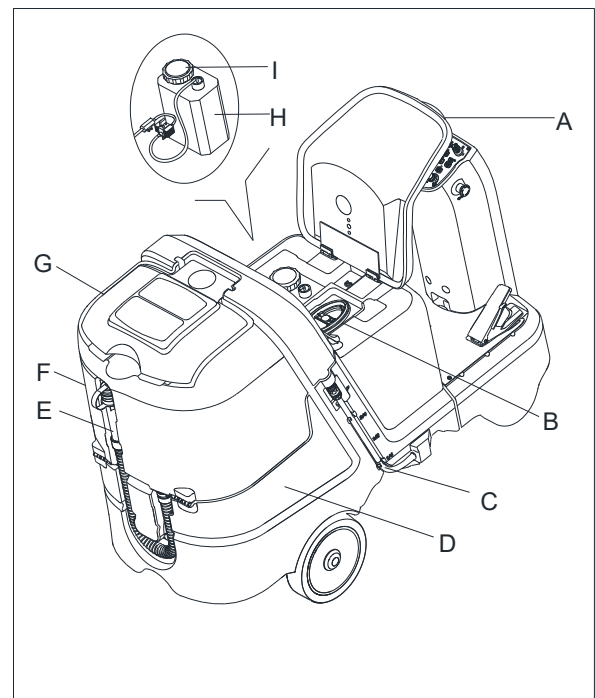

Figure 10
1. Turn over the seat (A, Figure 10).
2. (For machines without Chemical Mixing System) Use the front filler neck (B Figure 10) and the rear filler neck (C Figure 10) to fill the tank (D Figure 10) with a solution suitable for the work to be performed. Refill to the reference mark “F” of the level check hose (C Figure 10). Always follow the dilution instructions on the label of the chemical product used to prepare the solution. The solution temperature must not exceed + 104°F (+40°C).
3. (For machines with Chemical Mixing System) Fill the tank (D Figure 10) with clean water by using the filler neck (B Figure 10) and the rear filler neck (C Figure 10). Refill to the reference mark “F” of the level check hose (E Figure 10). The water temperature must not exceed + 104°F (+40°C).
1. Open the cover (G Figure 10) and check that the recovery tank (F Figure 10) is empty, otherwise empty it with the drain hose (E Figure 10).
2. Carefully overturn the recovery tank (F, Figure 10).
3. Open the cap (I Figure 10).
4. Replace or fill the jug (H Figure 10) with any standard gallon container of detergent suitable for the work to be performed (highly concentrated detergents). Do not fill the detergent tank completely, leave a few centimeters from the edge.
To install a new jug container, determine the cap size and if it is the smaller cap, remove the reducing adapter from the hose cap (I Figure 10). Insert the suction tube into the jug (H Figure 10). Pushdown firmly on the cap (I) and twist at the same time to put the cap back onto the jug (H Figure 10). In case of new system, system emptied for cleaning, etc., wait for the hoses to fill up, before starting the Chemical Mixing System.